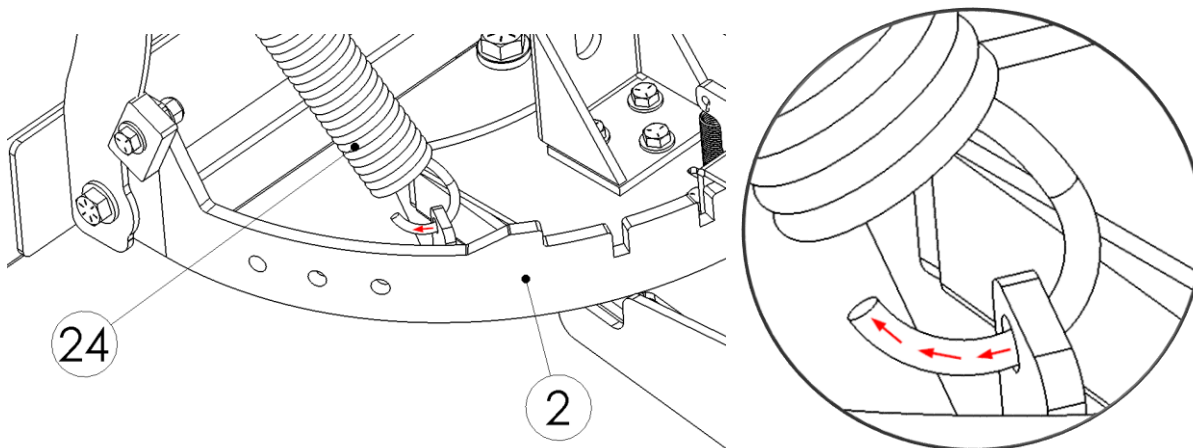

Figure 9
9) Attach the 10" Springs to the Swivel Plate with the hook pointed toward the blade as shown in Figure 9.